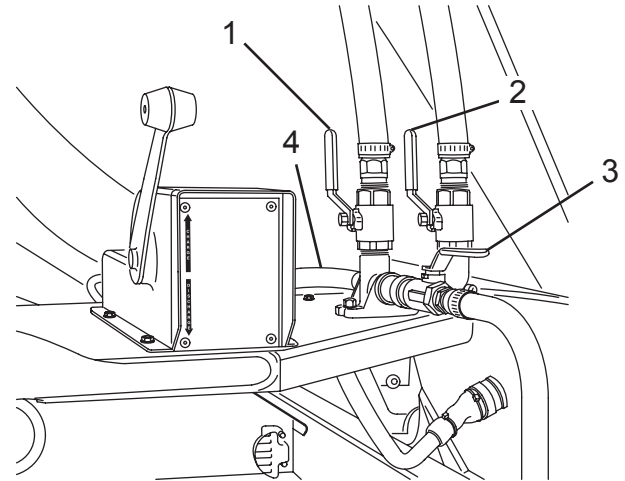

Figure 100
5. Open wash-out hose valve (Figure 100, Item 3) at the rear of the Mixer and allow water to drain.
6. Open drum wash-out valve (if equipped) (Figure 100, Item 1), and add-water valve (Figure 100, Item 2) and allow water to drain.
10. Close the drum wash-out valve (if equipped) (Figure 100, Item 1) and add-water valve (Figure 100, Item 2).
13. Open the drain petcock located at the lowest point in the supply hose (Figure 100, Item 4).